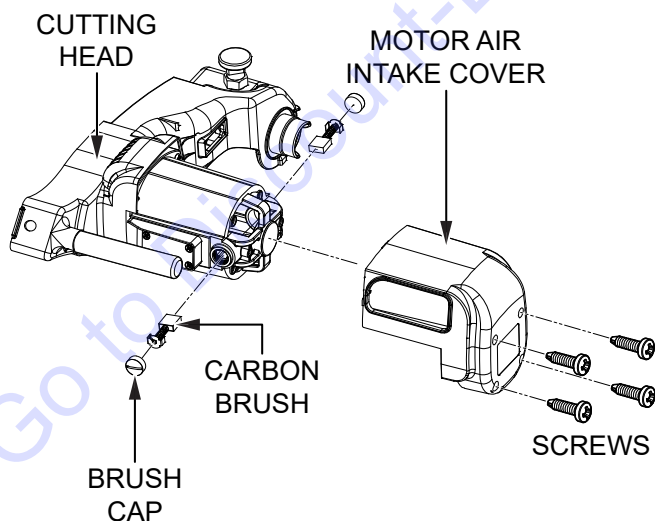

Figure 23. Carbon Brush Replacement
2. Remove the four screws securing the motor air intake cover to the cutting head (Figure 23).
3. Use a flat-blade screwdriver to remove the carbon brush caps (Figure 23). Be careful to prevent damage to the caps. If a brush cap becomes damaged, replace it with a new one.
4. Remove the existing carbon brushes (Figure 23) from the motor.